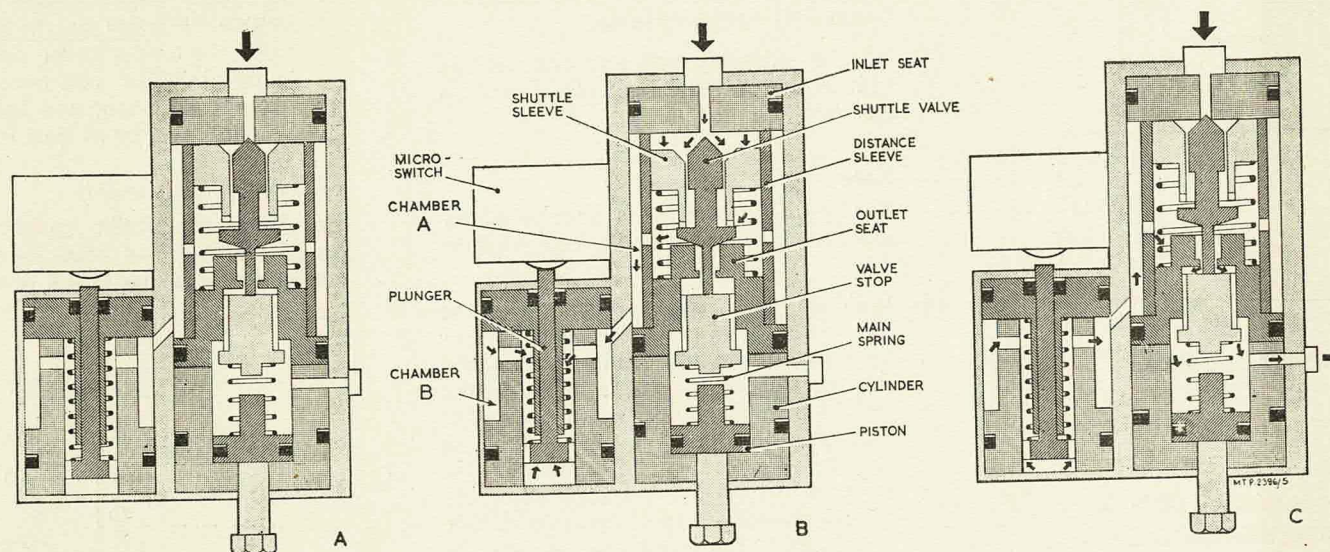

Fig. 3. Functional diagram
4. Below the specified cut-out pressure, the shuttle valve is held on the inlet seat by the valve stop and main spring and there is no flow of fluid within the unit (*A in fig. 3*). When cut-out pressure is reached (*B in fig. 3*) the shuttle valve is forced down on the outlet seat, the shuttle sleeve moves down on the valve and the system pressure then has access, by way of the slots in the end of the shuttle sleeve, the holes in the distance sleeve and by the interconnecting passage, to chamber B where it lifts the plunger to operate the micro-switch.
5. When the system pressure on the shuttle valve drops to the point at which it is overcome by the main spring, the valve is lifted from the outlet seat and reseated in the inlet seat. At the same time the shuttle sleeve is restored to its original position (*C in fig. 3*) and the pressure in chamber B is released by way of the interconnecting passage to chamber A, thence through the outlet seat and cylinder to the outlet connection. With the release of pressure the plunger is returned to its original position by its spring and the micro-switch is re-set.